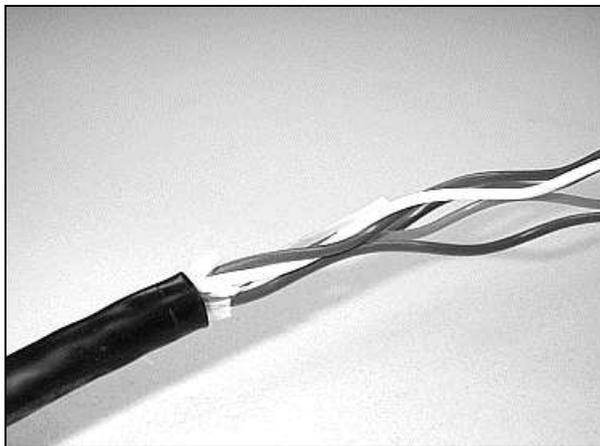

Figure 27 – Separate the buffer tubes.
6.18 Carefully unwrap and separate the buffer tubes. (Figure 27).